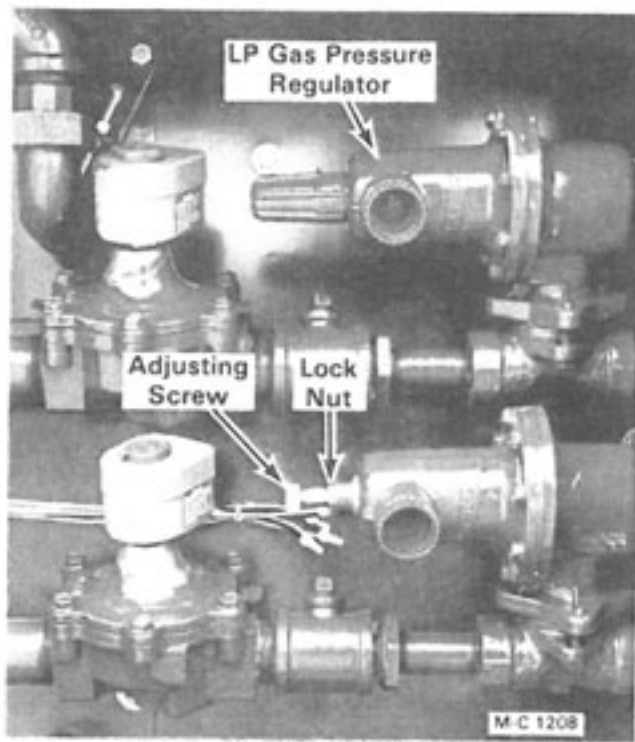

Figure 14 - LP Gas Two Burner Controls
13. LP Gas Only - With the burner operating, check the reading on the gas pressure gauge in the manifold. It should indicate between 8 and 10 PSI (less in mild weather). If not, loosen the locknut on the pressure regulator adjusting screw. Turn the adjusting screw IN to increase and OUT to decrease pressure. See Figure 14.